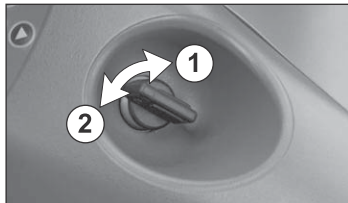

Fig. 9 Key switch
Turn the key switch OFF ② (see Fig.9).